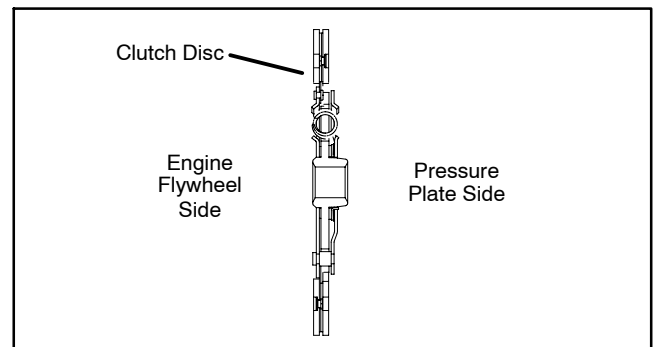

Figure 22
3. Remove cap screws, washers (Item 11) and pressure plate (Item 12), then slide out the transaxle main shaft and remove clutch disk (Item 13). Note orientation of clutch disk as it is removed (Fig. 22).